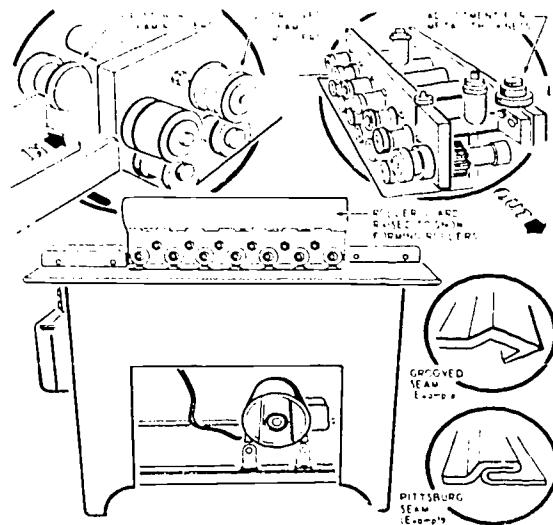
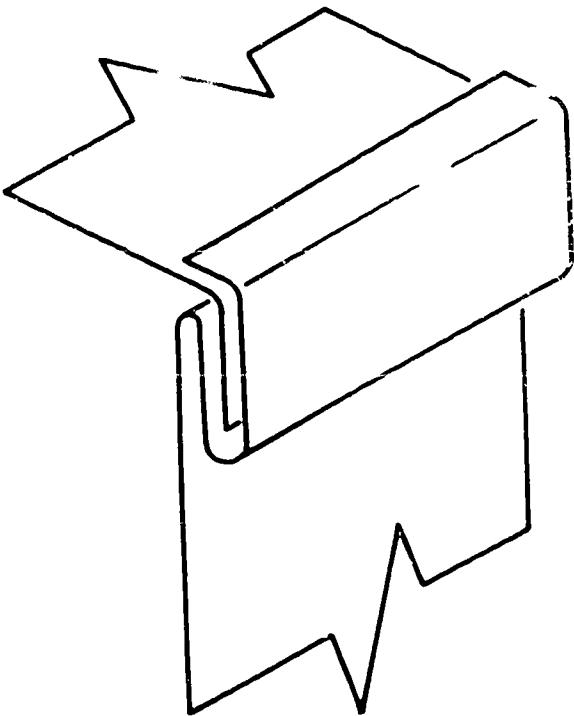

Figure 3-16. Pittsburg lock-forming machine.
Figure 3-17. Pittsburg seam.
**Pittsburg Lock-Forming Machine.** The Pittsburg lock-forming machine, shown in figure 3-16, is used to form Pittsburg lock seams for corners of rectangular or square ducts and to form grooved seams for round ducts. These two seams are shown in the illustration. By changing the rollers, the Pittsburg machine may be used to form other shapes of metal items. One such item is a drive slip used to connect sections of duct work. Check the manufacturer's handbook for other forming operations and the roller used
for each forming operation. The machine illustrated can form 26- to 18-gage sheet metal by adjusting for metal thickness. Be careful to set the thickness gage correctly to prevent damage to the rollers, and never overload the machine. The machine has guides to keep the material straight as it is fed into the rollers and has a protective cover over the rollers. Although figure 3-16 shows this roller guard in the raised position in order to view the rollers, the machine is never operated with the cover open. When the rollers are being cleaned or changed, electrical power to the machine should be removed so the on-off switch is inoperative.
Before using the Pittsburg lock-forming machine, you should make seam allowances on the pattern, and you should notch the material. Usually, for a Pittsburg seam the allowance is  $1\frac{1}{4}$  inches (1 inch for the seam side and  $\frac{1}{4}$  inch for the flanged side). The 1-inch seam is formed by the machine as shown in the example of the Pittsburg seam in figure 3-16. The  $\frac{1}{4}$ -inch flanged edge is bent  $90^\circ$  on a brake machine then fitted into the groove of the 1-inch seam as shown in figure 3-17. Then the metal which extends above the groove is flattened to hold the seam tight.